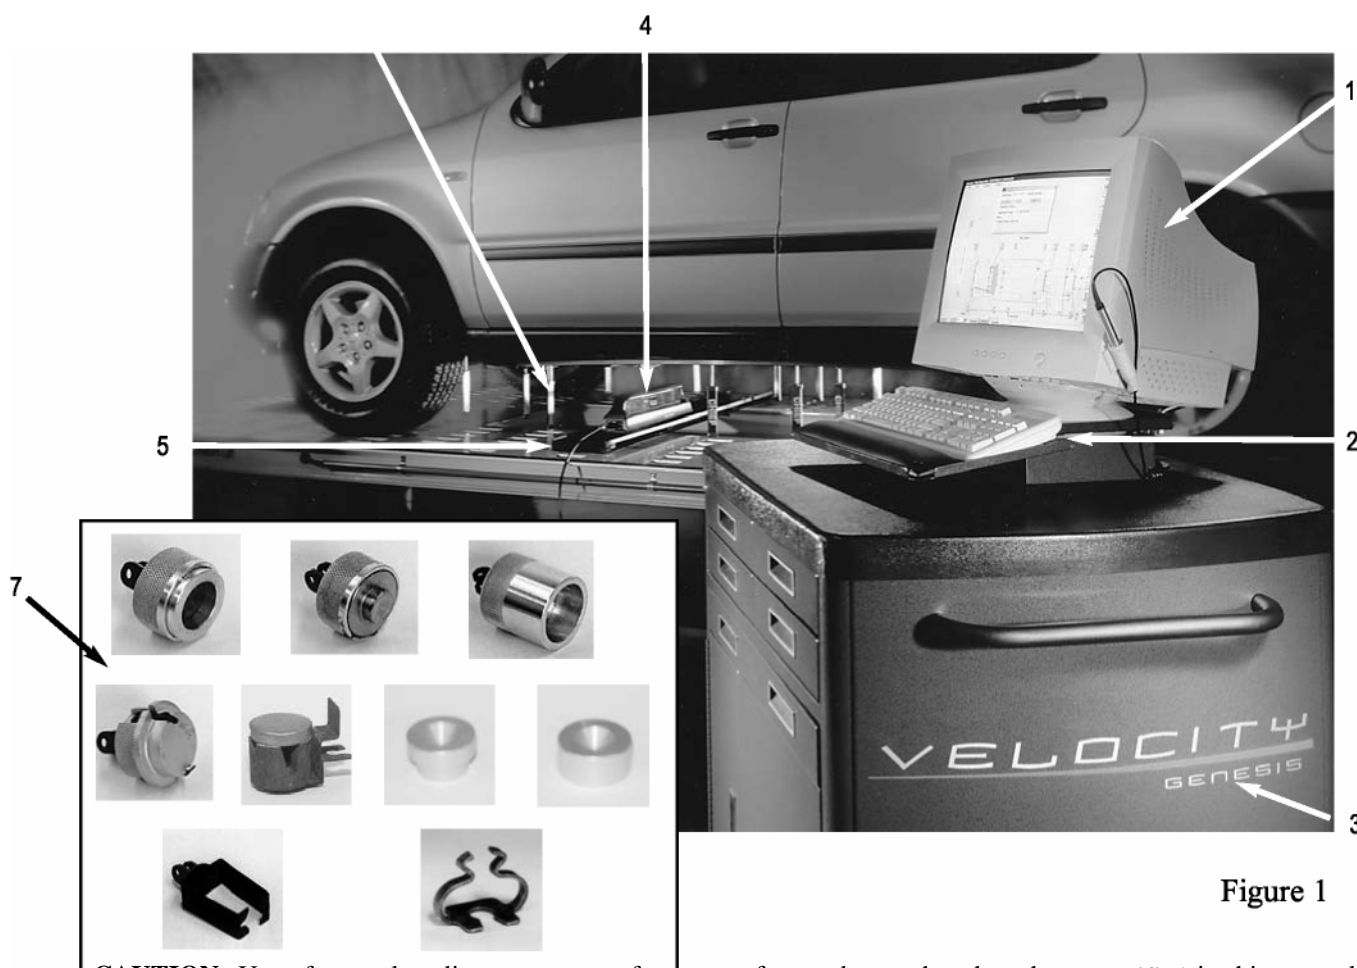

Figure 1
Equipment in Chief's Portal Computerized Measuring System (see Figure 1) is easy to use and provides accurate readings. Its basic components include:
- (*Not shown in Figure 1 — see following pages)